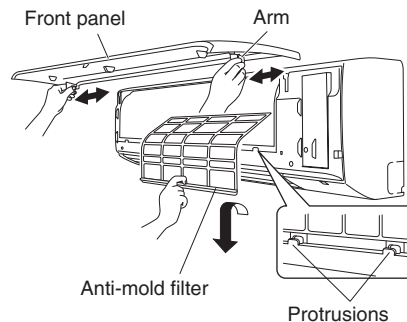

Fig. 1-65
If the front panel is difficult to remove, grasp both ends of it and lift it up slightly. Move it to the left and disengage the left arm, then move it to the right and disengage the right arm. (Fig. 1-65)
- (2) Lift the anti-mold filter up slightly to disengage it from the protrusions on the unit, and then pull downward to remove the filter from the unit. (Fig. 1-65)